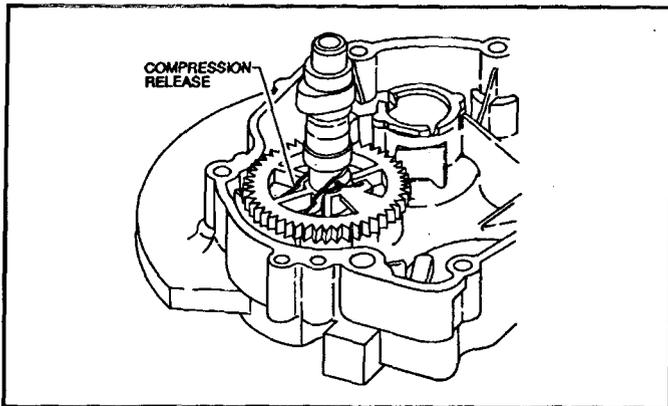

Figure 68
2. Note that the pin can be removed only from one direction. See Figure 68.